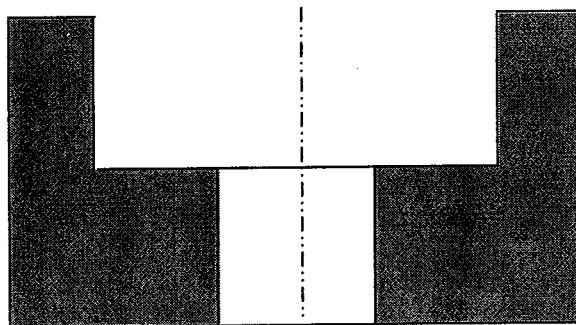

Figure 1
1. [a] What are the common problems faced by a manufacturer while doing a heat treatment on a steel gear blank with a design shown in Figure 1. Propose an appropriate design for heat treating the gear blank and explain how this design can overcome the problems.